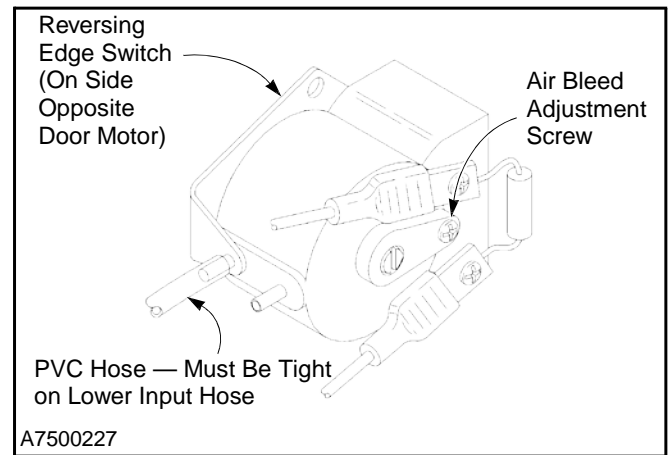

Figure 24
2. Make sure the clear PVC hose is in tight contact with the air input post so that air leakage cannot occur and that vibration will not cause the hose to fall off. Also make sure the hose is not kinked. (See Figure 24.)